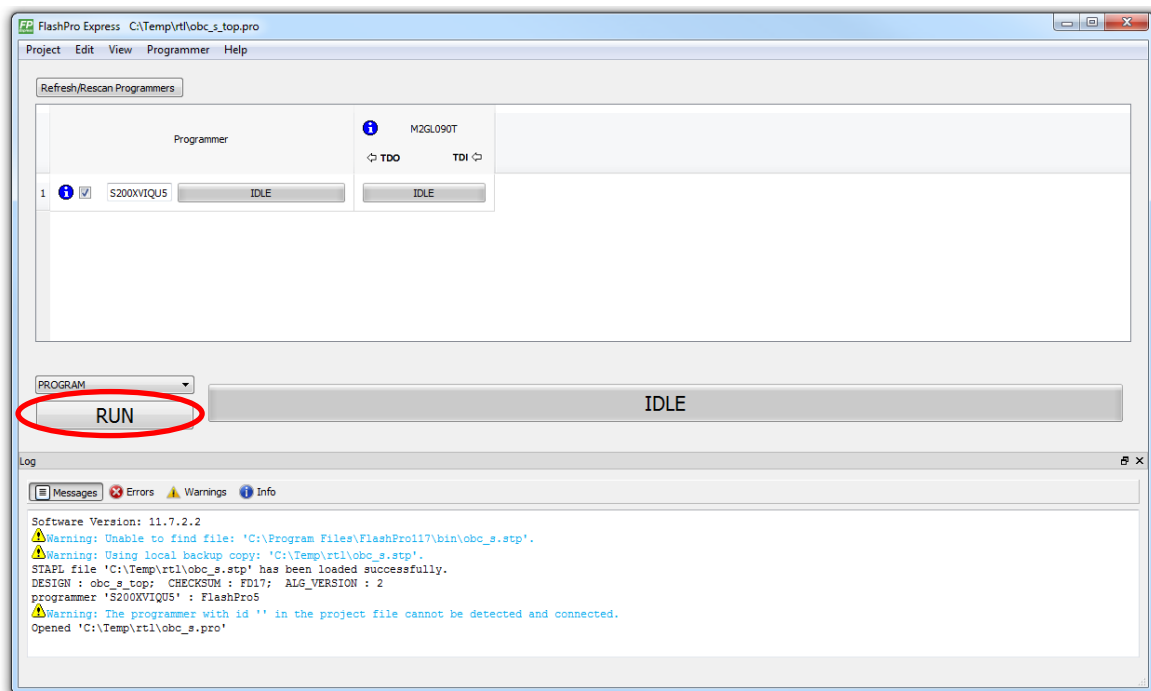

Figure 11-2 - View of FlashPro Express with project loaded.
5. Once the file has loaded (warnings might appear), click RUN (see Figure 11-2). Please note that the connected FlashPro5 programmed ID should be shown.